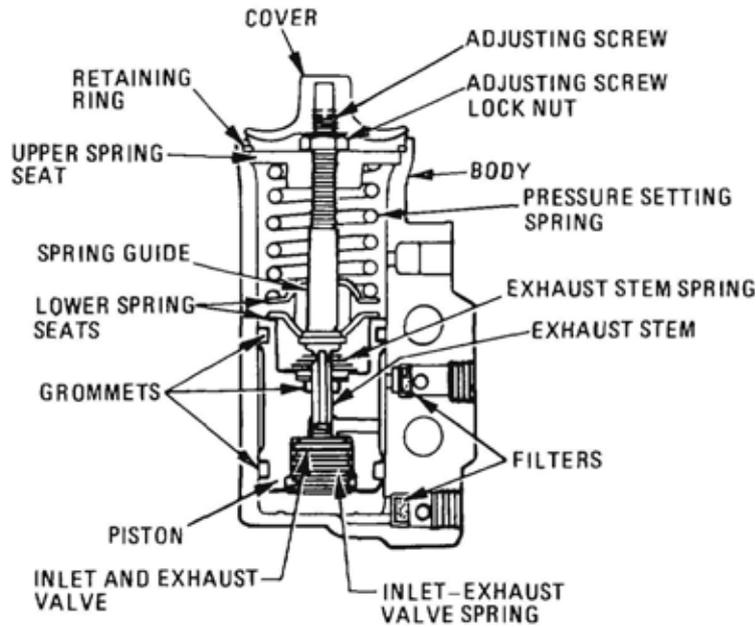

Figure 115 Sectional View of Air System Governor
**165.** The compressor runs continuously while the engine is running, but the actual compression of the air is controlled by the air compressor governor. Acting in conjunction with the unloading mechanism in the compressor cylinder block, the governor starts or stops the compression of air by loading or unloading the compressor. When pressure in the air brake system falls below the desired minimum pressure of 655 kPa to 680 kPa (95 psi to 100 psi), the governor loads the compressor, starting the compression of air. The governor does this by means of a piston – contained within the governor body – upon which air pressure acts to overcome the pressure setting spring and control the inlet and exhaust valves to either admit or exhaust air to or from the compressor unloading mechanism (Figure 115).